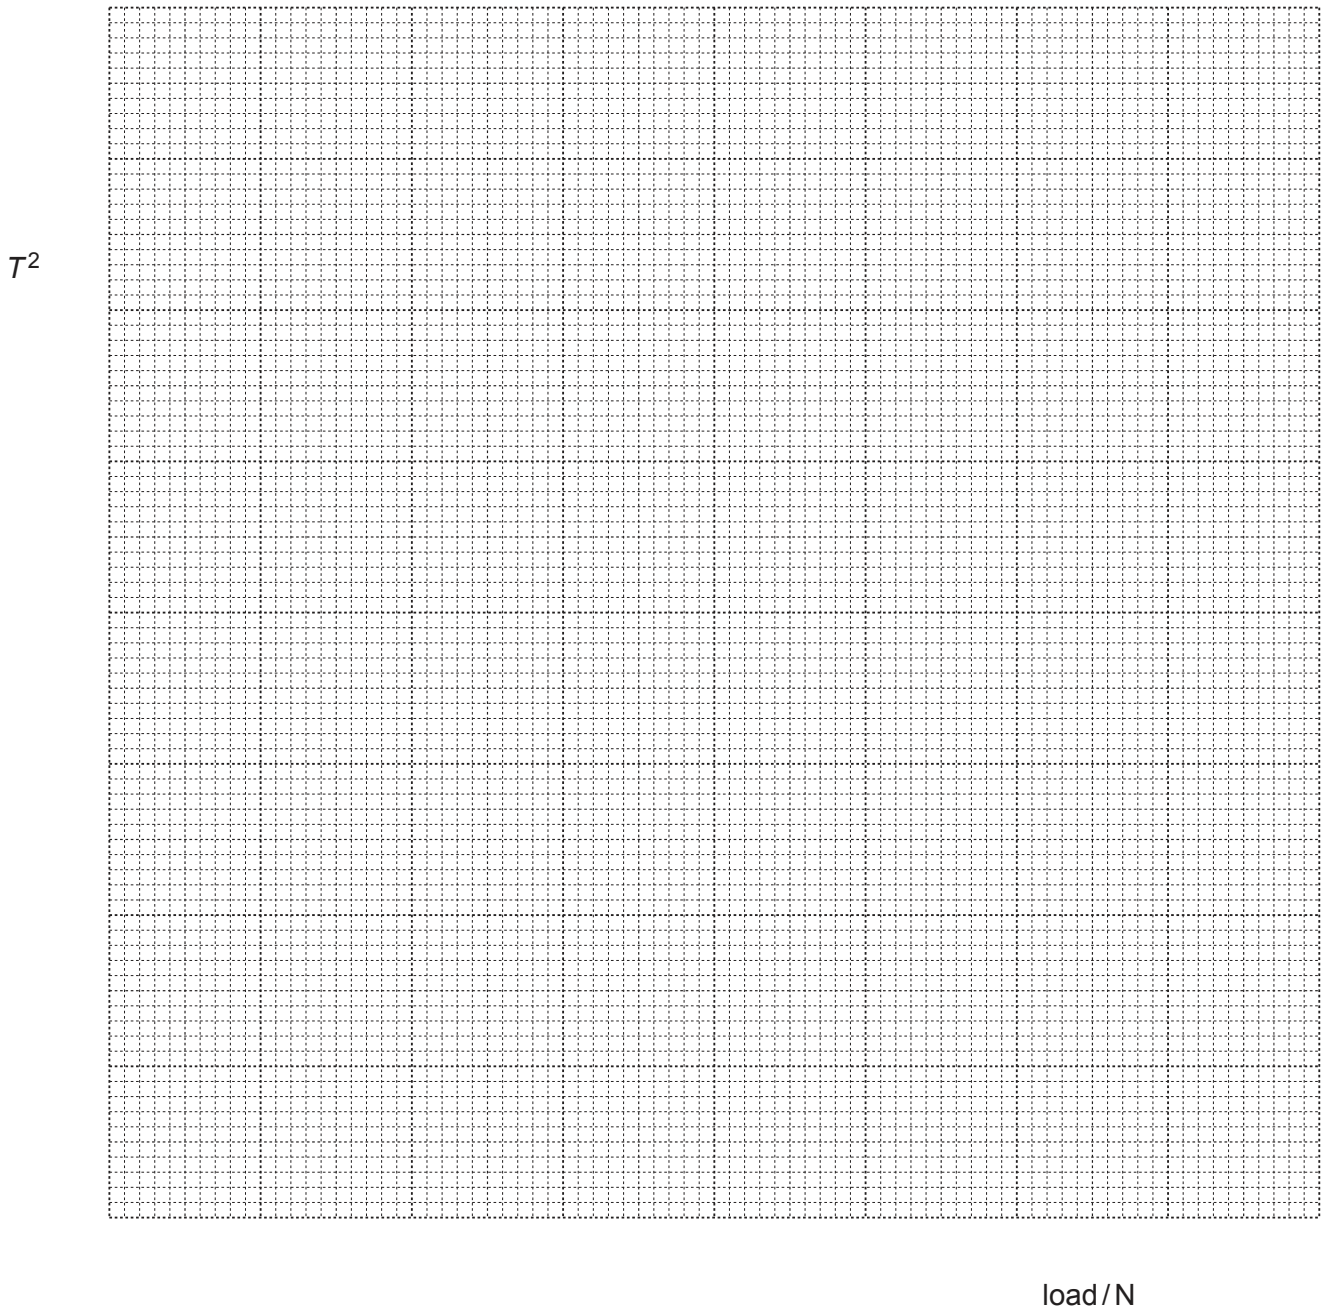

Fig. 3.3
- (d) On the grid provided in Fig. 3.3, plot a graph of the load on the x-axis against T^2 on the y-axis.